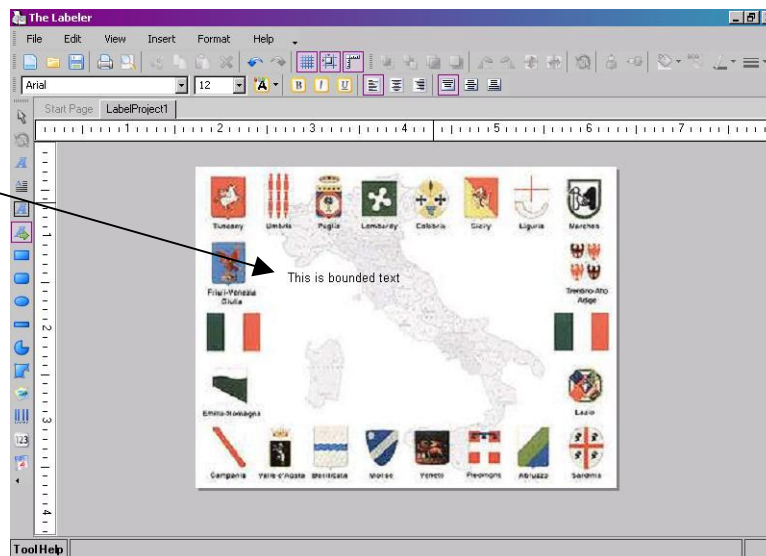

Figure 3.4.4.3: Typing Bounded Text
4. Press the enter key once you have finished typing in the text that you want (see Figure 3.4.4.4).